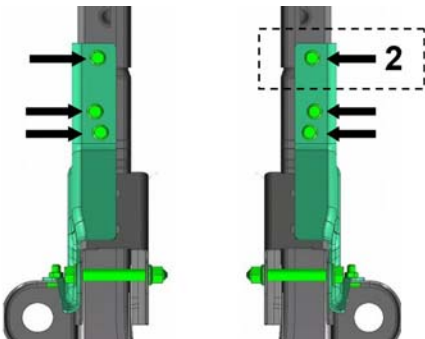

Figure 16: Driver side temporary installation (2000
NOTE: Some 2000MY vehicles' frames already have a nut welded into the driver side frame at location 2 in Figures 16 and Figure 17. For 2001 and 2002MY vehicles this location is for the fuel tank protector. DO NOT DRILL THIS LOCATION IF A WELDED NUT IS PRESENT
9. Drill final holes for Pop-nuts using a 33/64" drill bit. Some 2000MY vehicles' frames already have a nut welded into the driver side frame at location 2 in Figure 16. For 2001 and 2002MY vehicles this location is for the fuel tank protector. **DO NOT DRILL THIS LOCATION IF A WELDED NUT IS PRESENT**